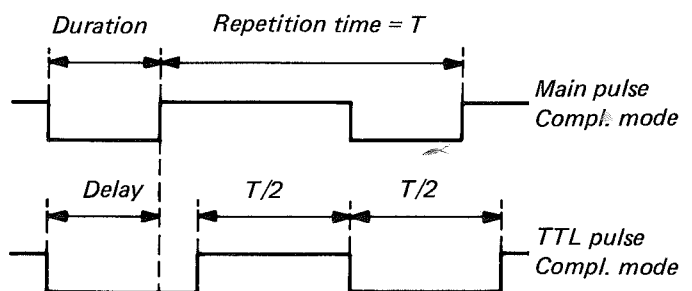

Fig. 6.8. Delay
- A normal delay function is not included in the PM 5705, but the complementary main pulse and the complementary TTL pulse in square wave mode can be used to achieve a pulse delay. Delay time is equal to set pulse duration subtracted from half the repetition time. Refer to fig. 6.8.